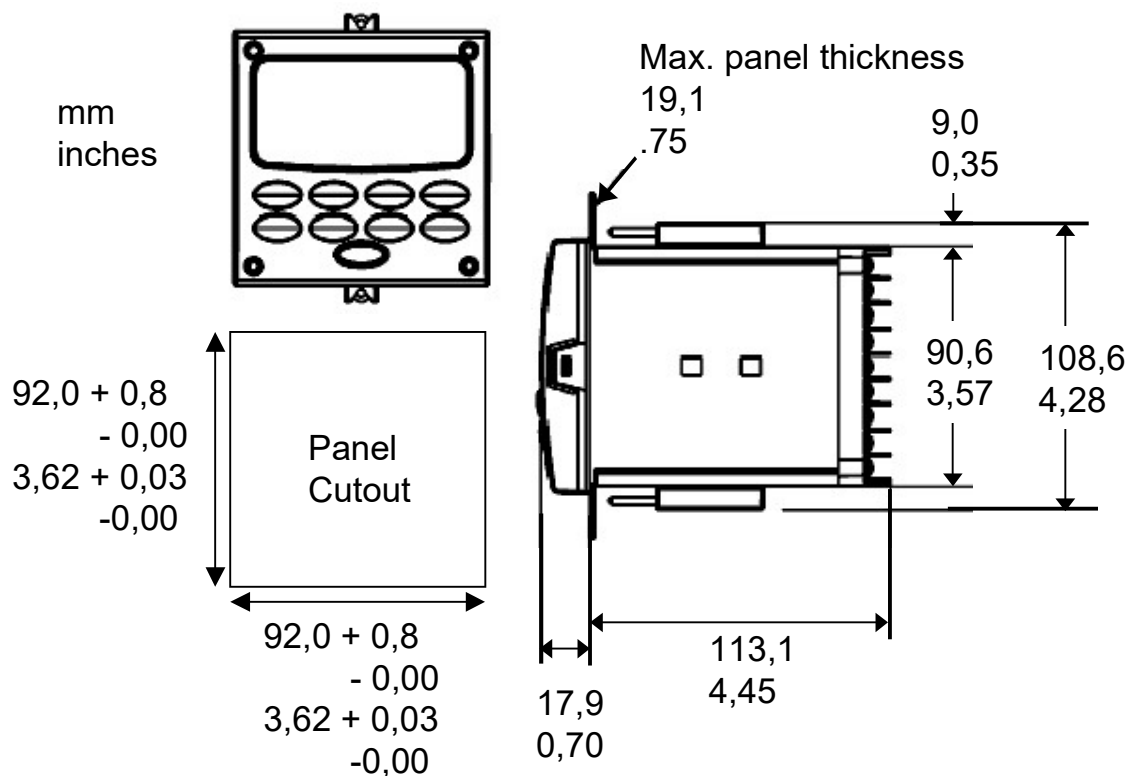

Figure 2-2 Mounting Dimensions (not to scale)
- Overall dimensions and panel cutout requirements for mounting the controller are shown in Figure 2-2.
| 1 | Mark and cut out the controller hole in the panel according to the dimension information in Figure 2-2. |